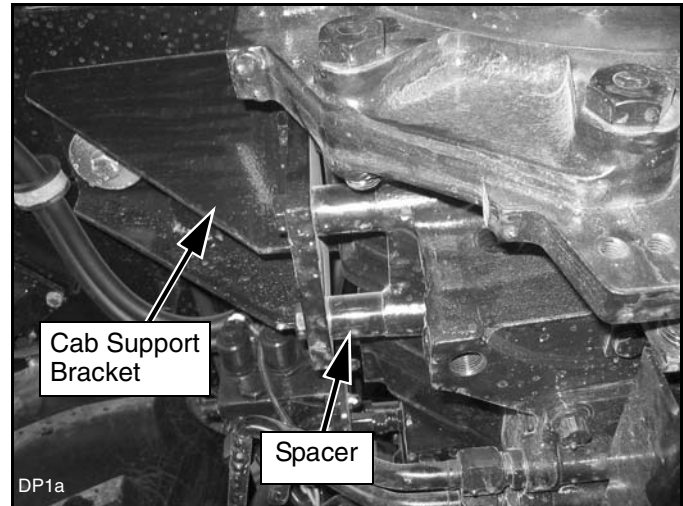

Figure 2. Right Cab Support Bracket, Bottom View
7. Remove hardware and spacers from the bottom of cab support brackets. See Figure 2. Save bolts for later use.